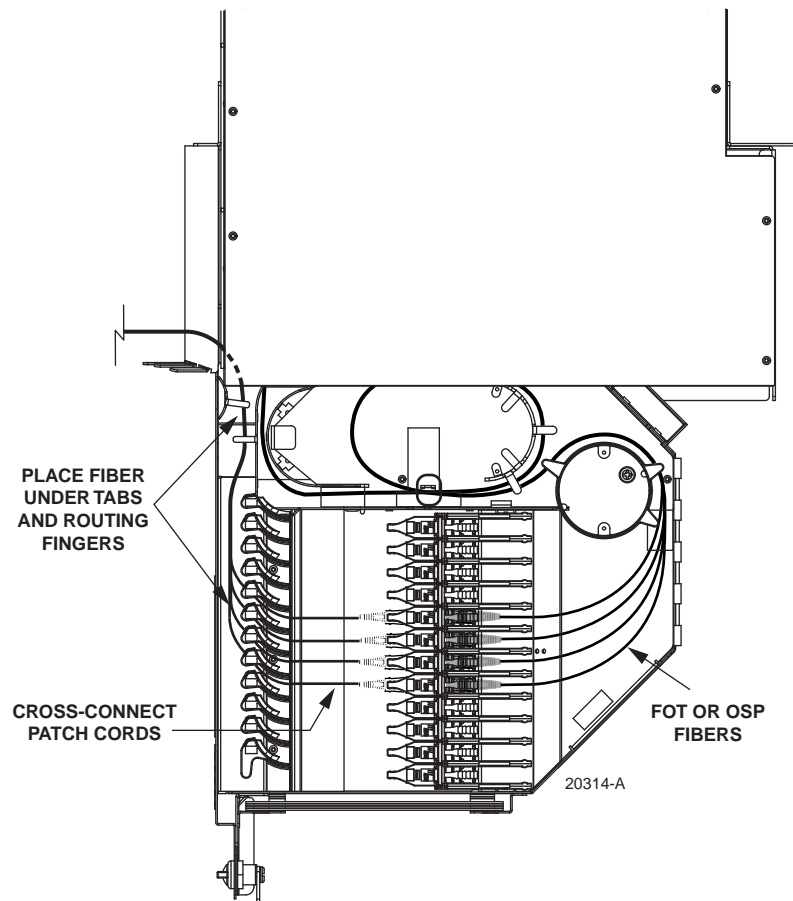

Figure 69. Connecting a Cross-Connect Patch Cord
3. Remove the dust cap from the adapter and connect the patch cord connector to the front side of the adapter pack (left side when drawer is open), as shown in Figure 69.
4. Route the patch cord within the drawer through the radius limiters as also shown in Figure 69.